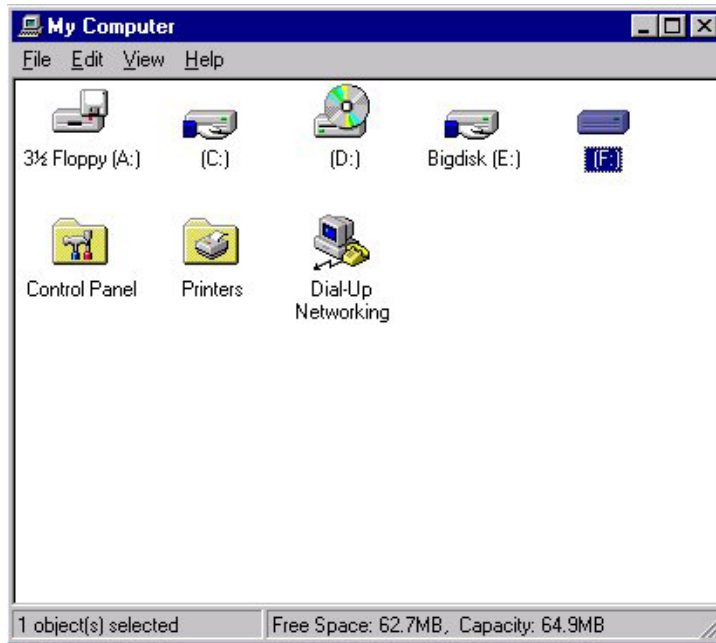

Figure 3.11 Displaying Connected Devices
1. From the Win2000 desktop, double-click **My Computer** to display all connected devices. All newly partitioned disks should display in this window (see Figure 3.11).